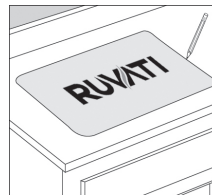

Figure 1
1. Place the sink cut-out template on the countertop, where the sink is to be installed. Trace around the outside perimeter with a pencil (Figure 1). **Note: Make sure you are using the top-mount template, and not the undermount.**